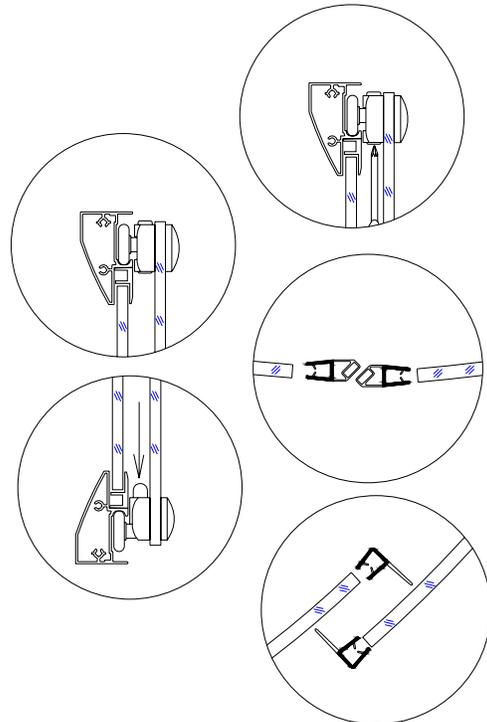

Fig 12
12. Secure the handles to the doors. Slide the top door wheels into the top guide rail and push the bottom wheels in the bottom guide rail by pressing down the button. Attach the magnetic strips to the glass doors. Use the Phillips screwdriver #2 (**do not use power screwdriver**) to adjust the upper wheels, make sure they move smoothly and the doors close tight. Then attach the anti-water strips; (fig 12)